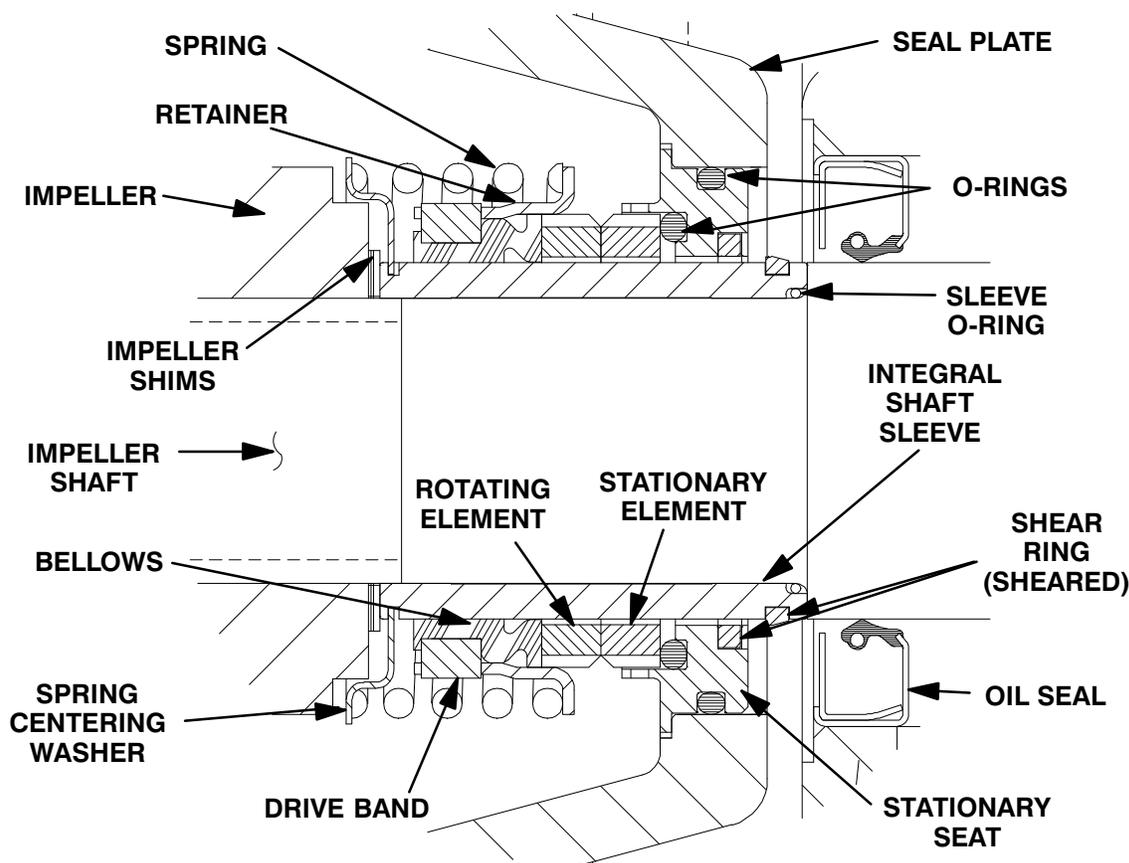

Figure 7. Cartridge Seal Assembly
To ease installation of the seal, lubricate the shaft sleeve O-ring (4) and the external stationary seat O-ring with a very **small** amount of light lubricating oil. See Figure 7 for seal part identification.